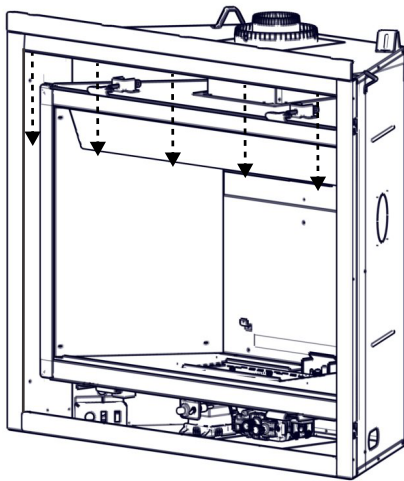

FIG. 1
- A. Remove the 4 securing screws from the top of the firebox (FIG 1).